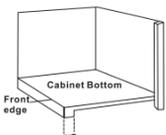

Figure 1
a) Measure the thickness of the cabinet overhang (see Figure 1).